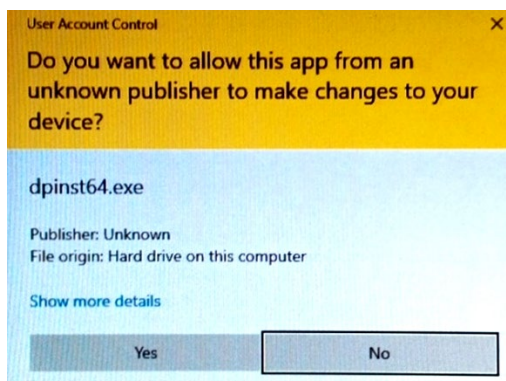

Figure 3.27. Device Configuration Prompt
6. A message box appears (Figure 3.27). Click **Yes**.